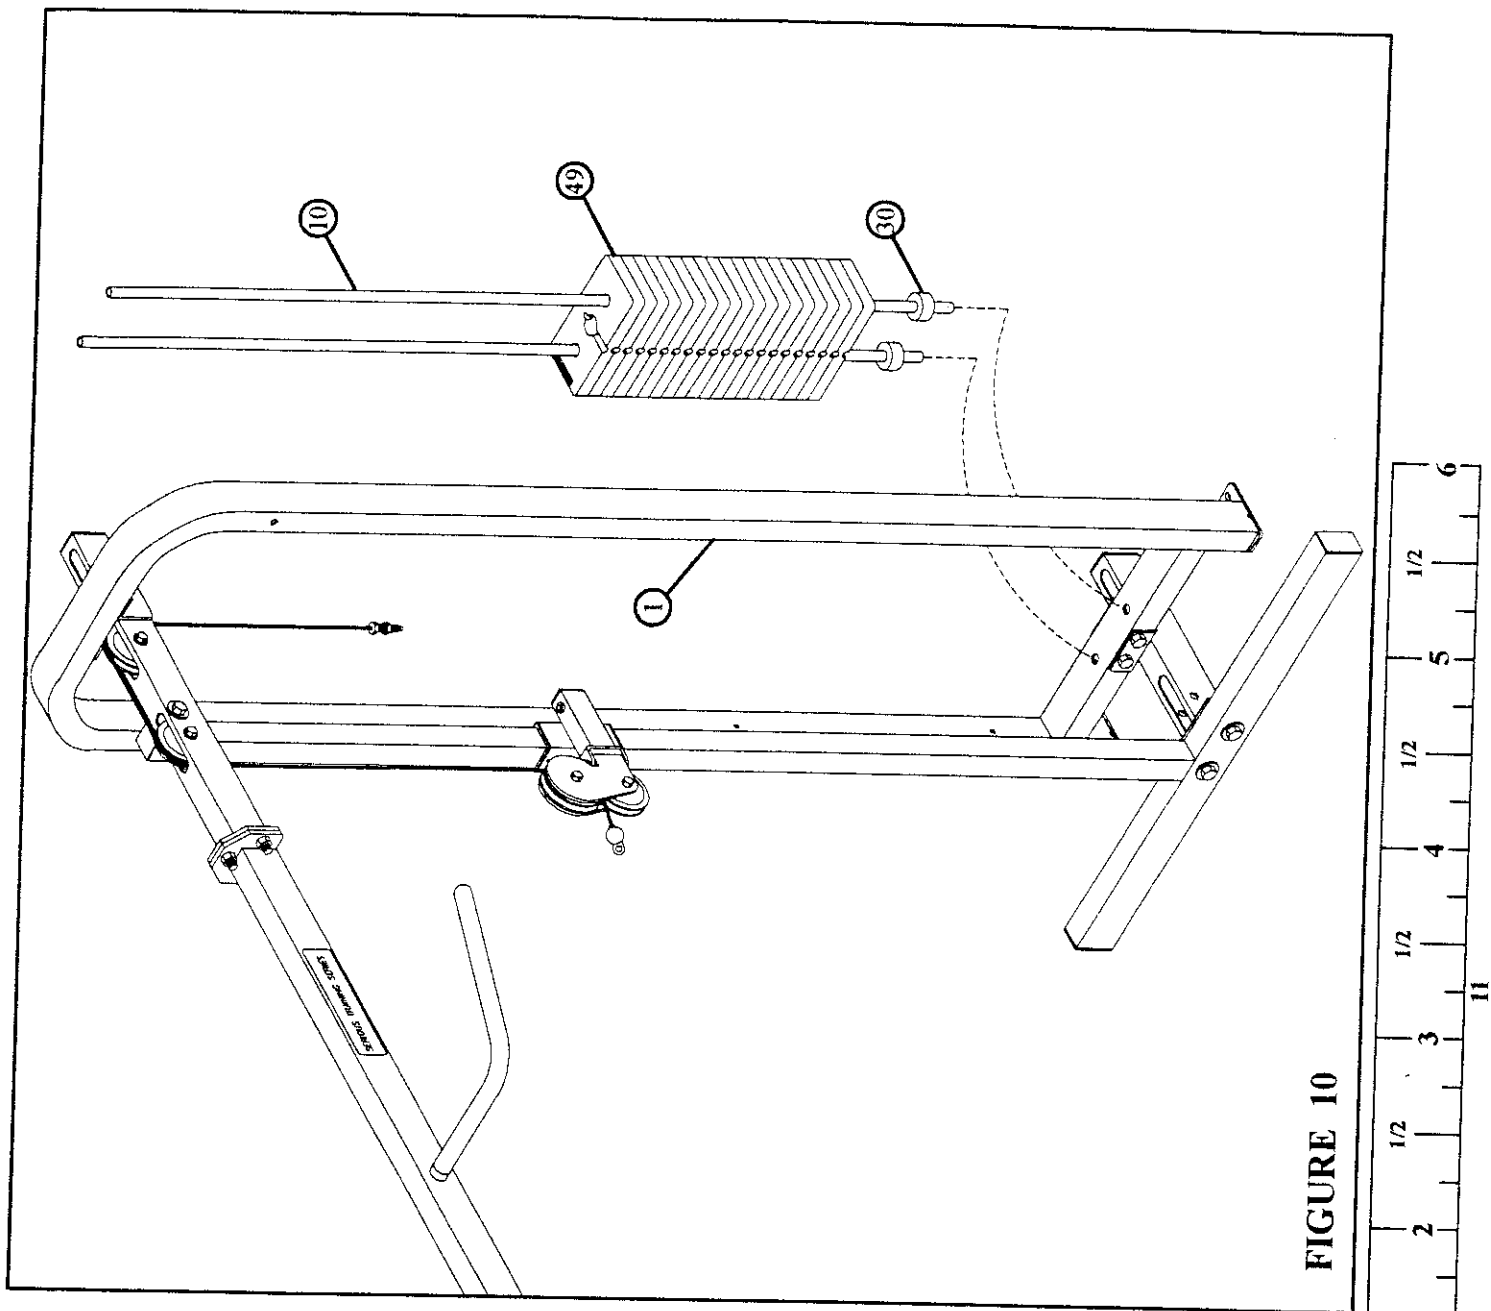

FIGURE 10
- Insert the two **GUIDE RODS (10)** into the base of the **TOWER (1)** as shown in **FIGURE 10**. Lubricate the **GUIDE RODS** with a silicon or teflon spray that is available at most hardware stores.
- Slide two **WEIGHT STACK CUSHIONS (30)** down over the **GUIDE RODS (10)**. See **FIGURE 10**.
- Using **EXTREME CARE** slide twenty **WEIGHT PLATES (49)** down over the **GUIDE RODS (10)** with the "PARABODY" side up and the key-hole facing as shown in **FIGURE 10**.